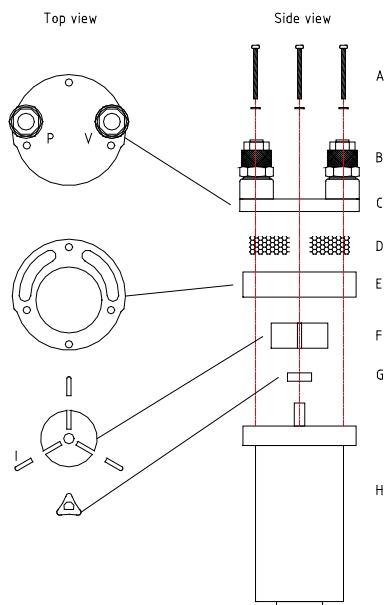

Fig. 4.6a
When the capacity of the air pump decreases, the filters inside the pump need to be cleaned. Remove the pump from the electronic compartment. Loosen the four M4 bolts from the pump head and en remove the 2 filters(D) from the pump head. Clean the filters with tap water and let them dry. **Be aware!**, reassemble the pump exactly as seen in fig 4.6a.